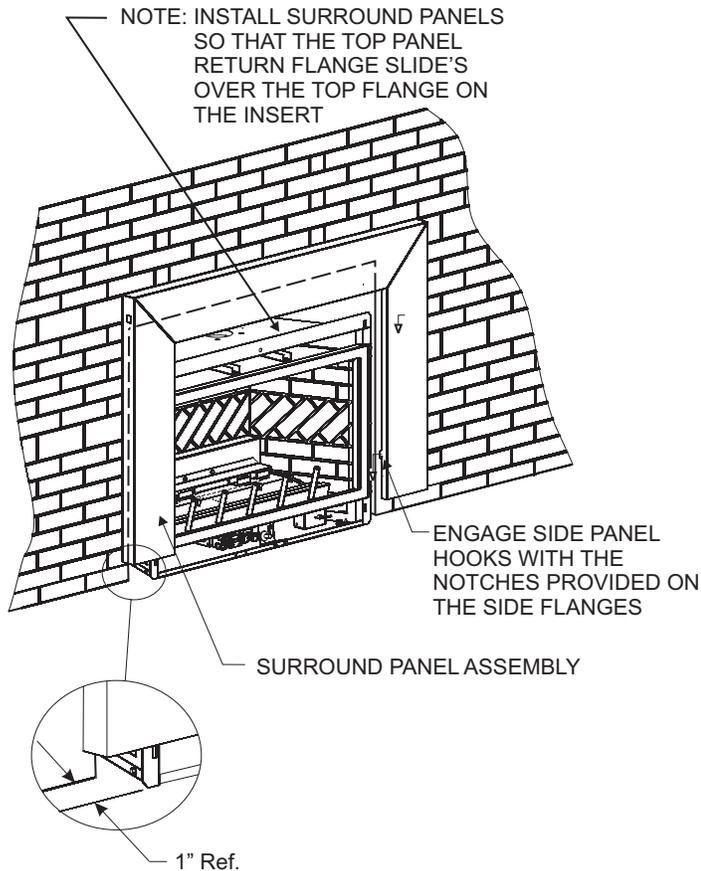

Figure 22
2. Attach the flag terminal ends to the "TH/TP" and "TH" terminals on the front terminal block of the gas valve. See Figure 22.